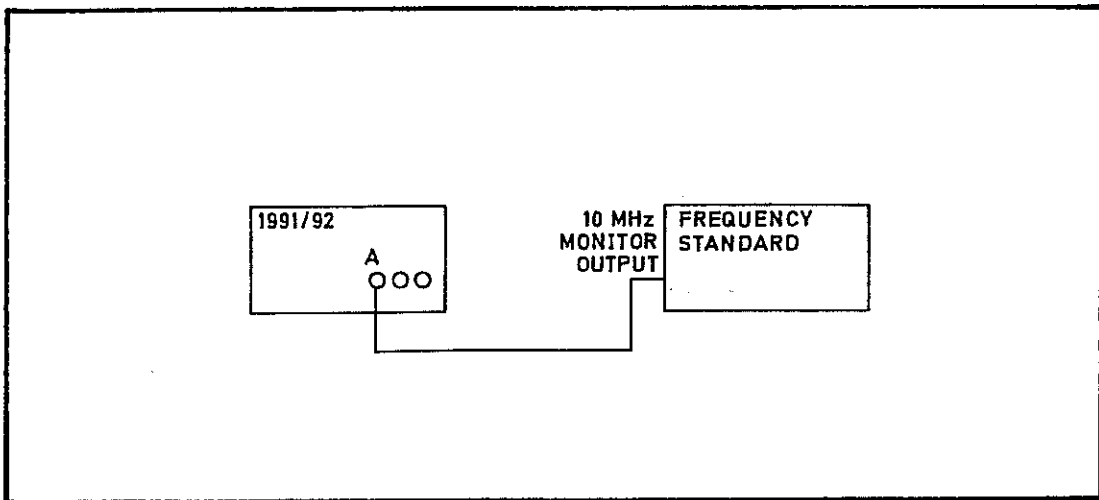

Fig 7.14 Connections for Internal Frequency Standard Adjustment
- (1) Switch on the 1991/92. Select FREQ A and verify that 00000000 is displayed. If the Option 04B (9423) frequency standard is fitted, press the RESOLUTION  $\uparrow$  key until 00000000 is displayed.
- (2) Connect the test equipment as shown in Fig 7.14.